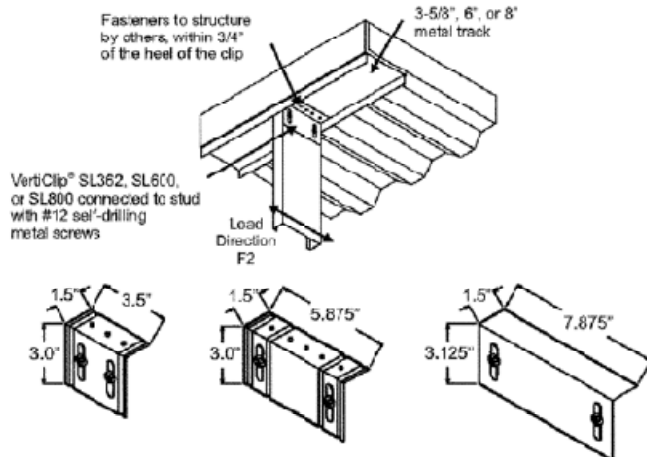

FIGURE 1 - VERTICLIP SL362, SL600, and SL800
**3.1.2 VertiClip® SL:** VertiClip SL362, 600 and 800 are L-shaped angles that connect 35/8-, 6- and 8-inch-deep (92, 152, and 203 mm) exterior curtain wall steel studs, respectively, at head of wall to the building's structural frame while allowing for a maximum of 11/2 inches (38.1 mm) of vertical movement between exterior wall elements and the primary structure. The minimum base-metal thickness of the clips is 0.0677 inch (1.7 mm). The long leg of the VertiClip SL362 connector, which is fastened to the curtain wall stud, has two vertical slots, each 3/8 inch (9.5 mm) wide by 13/4 inches (44.5 mm) long. The long leg of the VertiClip SL600 and SL800 connectors has two or three vertical slots, each 3/8 inch (9.5 mm) wide by 17/8 inches (47.6 mm) long. Refer to Figure 1 for overall dimensions of each VertiClip SL connector and a typical installation detail.
Table 1 of this report presents the following design information: (1) The calculated safety factor,  $\Omega$ , and resistance factor,  $\phi$ , as derived in accordance with the AISI S100-07 under the 2009 IBC or NAS-01, including the 2004 Supplement under the 2006 IBC, (2) the average test load at 1/8-inch (3.2 mm) deflection service limit; (3) the Allowable Strength Design (ASD) loads for the VertiClip products described in this report; and (4) the Load and Resistance Factor Design (LRFD) design strength for the VertiClip products described in this report. Refer to Figures 1 through 5 for the direction of load listed in Table 1.
1Refer to Figures 1 through 5 for direction of load.